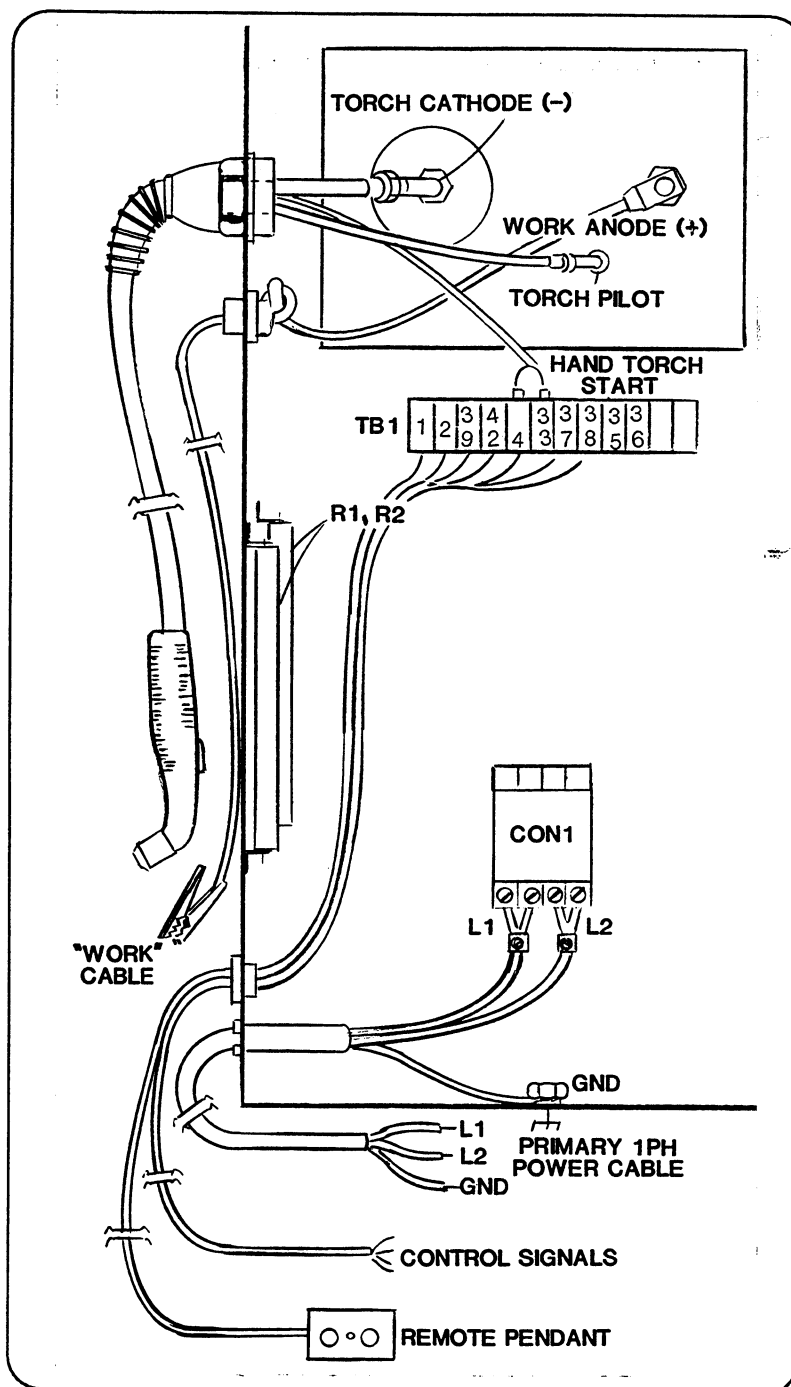

Figure 3-4 Electrical and Torch Lead Connections
- Ensure the the power cord ground wire is properly connected to the MAX80 power supply GROUND terminal (see Figure 3-4).
To connect the hand or machine torch lead to the power supply, see Figure 3-4 and proceed as follows: